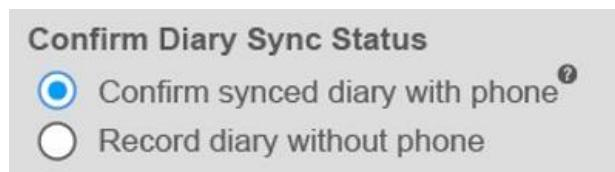

Figure 4-11 Confirm Diary Sync Status
- ① All connected recorders will be displayed in this window.
- ② Displays the case information stored in the current recorder.
- ③ Shows the export progress once the data export begins.
- 4) The Data Export window lists the connected recorders. Select the recorder needing data export (red mark) and confirm whether the diary on the mobile phone has synced with the recorder (for confirmation method, refer to Section 4.4.1.1: Syncing Diary Data), then check the options as necessary (as shown in Figure 4-11).